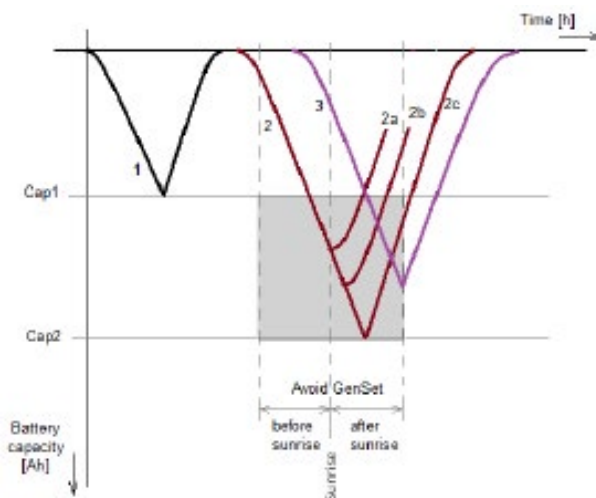

Figure 4-36 Discharge Cycling
Normally, if discharged battery capacity drops to Cap1 value, Generator is turned ON, see Figure 4-36.
- **Avoid Genset before Sunrise [h]** - To avoid short-term Generator running, and fuel consumption, it is possible to postpone Generator startup by setting this value, Figure 4-36 (2a).
- **Avoid Genset after Sunrise [h]** - If the FPV converters do not provide enough energy for battery charging after sunrise due to bad weather conditions, the battery keeps discharging to Cap2 value until the FPV converters start working, see Figure 4-36 (2b).
If the FPV converters do not start feeding the battery before reaching the Cap2 value, Figure 4-36 (2c), or the time interval Avoid Genset after sunrise expires, Figure 4-36 (3), the generator turns ON automatically.